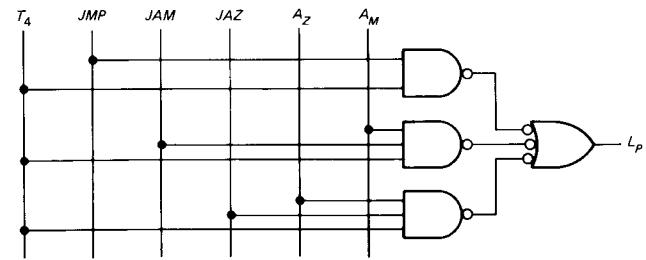

Fig. 3-34
- 3-25. In Fig. 3-34 the inputs are T_4 , JMP , JAM , JAZ , A_Z , and A_M ; the output is L_P . What is the output for each of these input conditions?